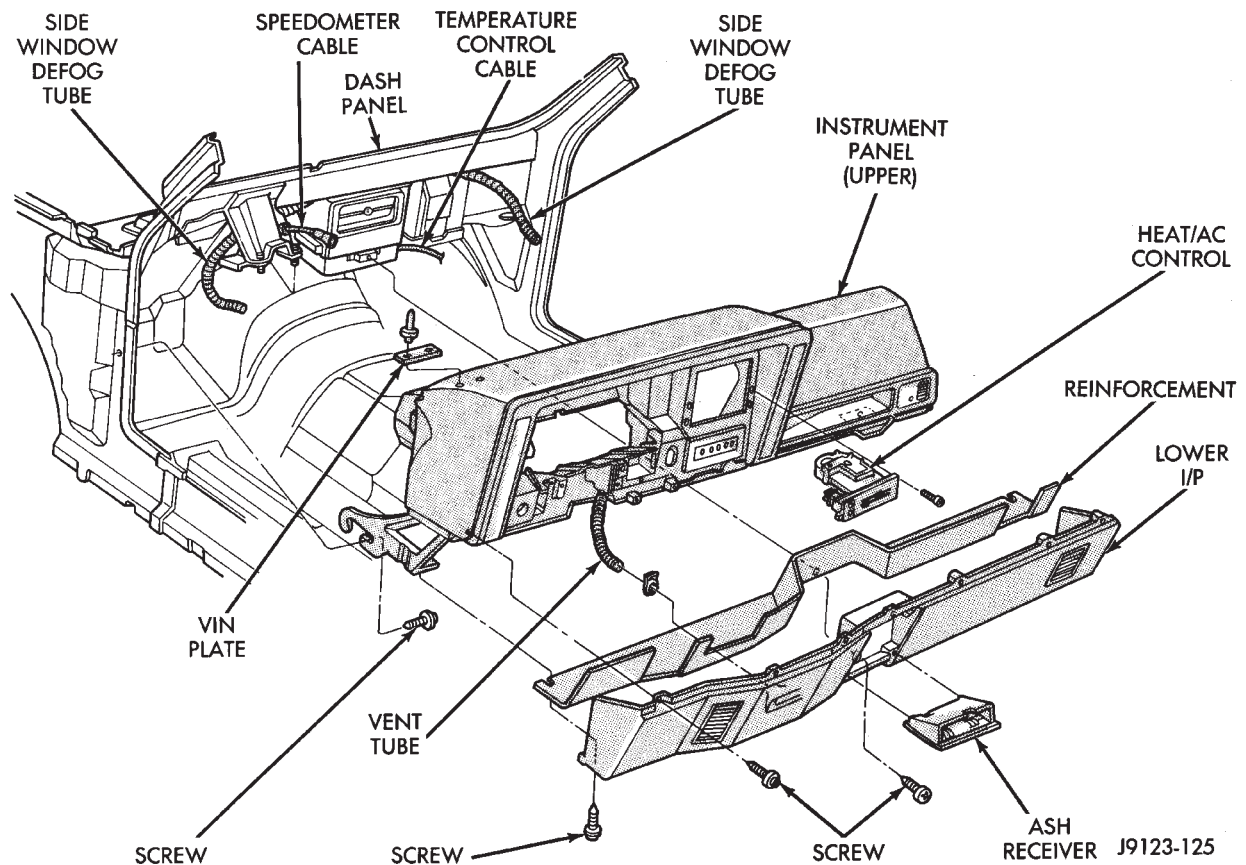

Fig. 18 Instrument Panel Disassembled
(9) Remove the upper section of instrument panel from dash panel (Fig. 18).